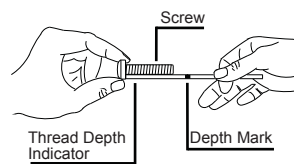
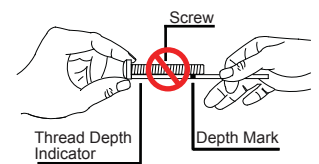

Figure 2
Figure 3
- 5) If the screw you selected is longer than the mark on the Thread Depth Indicator, as shown in Figure 2 and Figure 3, do not use this screw. The screw length must not bypass the mark.